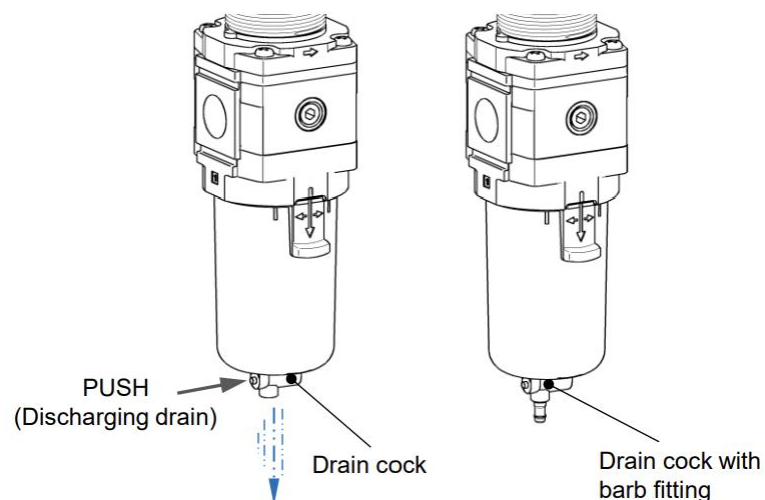

Figure 3.5.1-1: Push Type Drain Cock
3. To discharge the auto drain manually, push the button on the drain cock as shown in Figure 3.5.1-1.